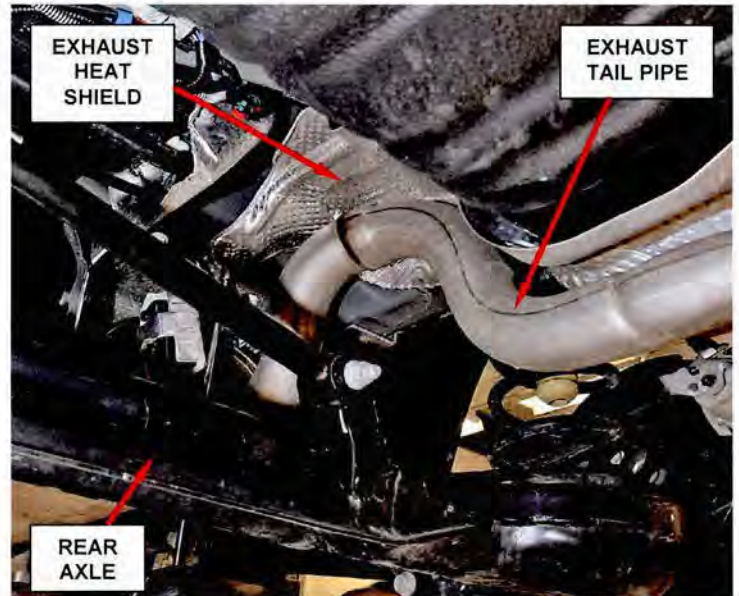

Figure 2 – Exhaust Heat Shield
2. Remove and save the section of exhaust heat shield above exhaust pipe that covers the wheel speed sensor wiring connector (Figure 2).
25. Install the exhaust heat shield located above the exhaust pipe (Figure 2).